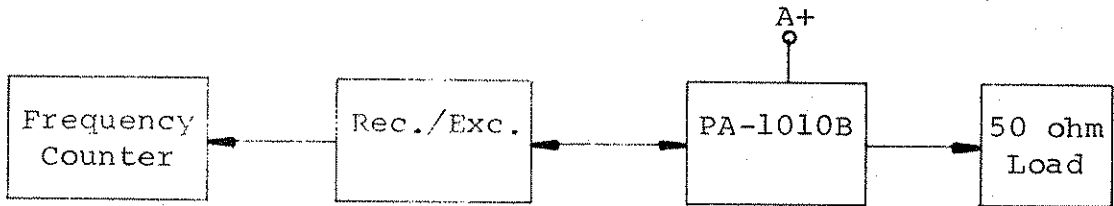

Figure V-1
- (a) Refer to Figure V-1 for equipment hook-up.
- (a) Refer to Figure V-1 for equipment hook-up. (Exciter output J10 disconnected from PA-1010B.)